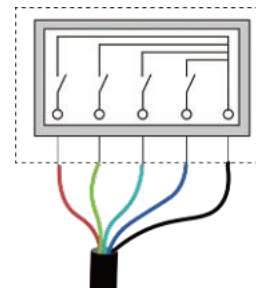

Fig. 61. Connect the network cable to ripple control receiver
- 1. Strip the insulation of the other side from the network cable and screw copper wire to the corresponding terminal of the ripple control receiver. (see Fig. 61).